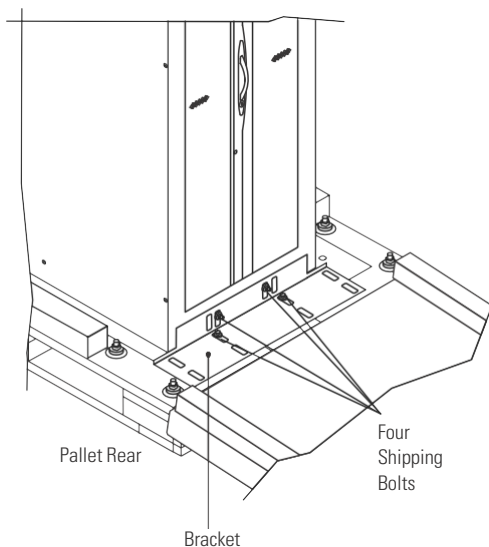

Figure 8. Removing the Stabilizing Brackets
1. Remove the four shipping bolts securing the front stabilizing bracket (see Figure 8).